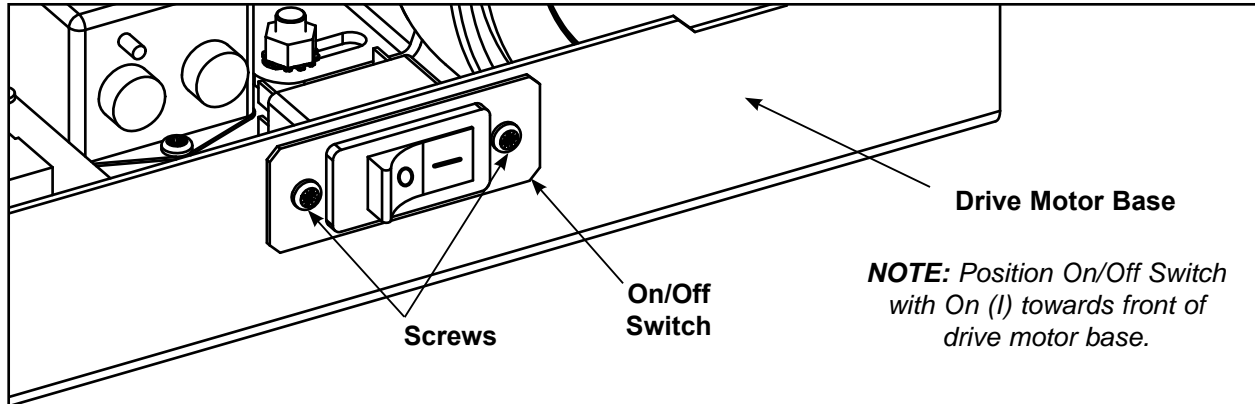

Figure 22
- B. Using a Phillips screwdriver, Remove the two Phillips screws from the drive motor base. See Figure 22.
- B. Using a Phillips screwdriver, Secure the on/off switch with the two Phillips screws removed in step 1B. See Figure 22.
- C. Connect the two white fast-on connectors the on/off switch as shown in Figure 22.
- D. Connect the two black fast-on connectors the on/off switch as shown in Figure 22.